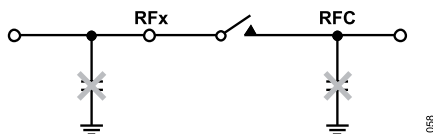

Figure 74. Avoid Large Capacitor Directly Connected to the Switch
- ▶ Avoid connecting capacitive terminations directly to the switch, as shown in Figure 74. A shunt capacitor can store a charge that can potentially lead to hot switching events when the switch opens or closes, affecting the lifetime of the switch.